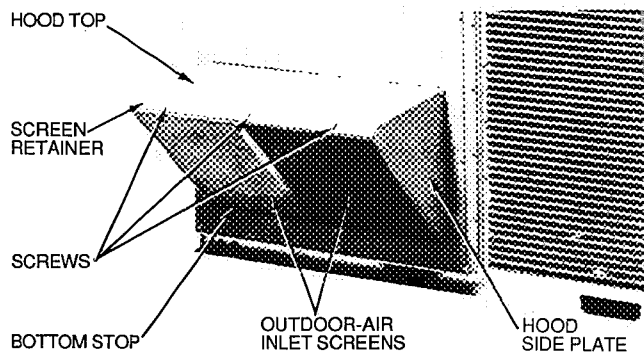

Fig. 18 - Air Hood Details
10. Fasten hood top and side plate assembly and bottom stop (Fig. 18) to unit with screws saved from Step 4.